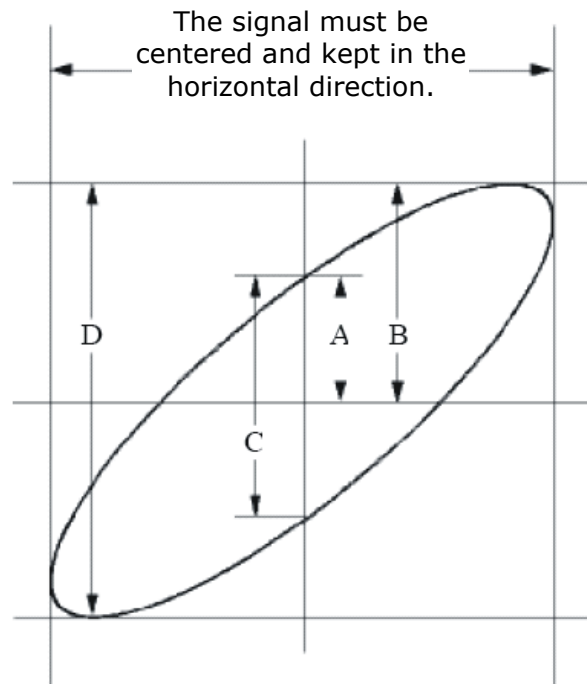

Figure 49. Lissajous Graph.
- 9 With the elliptical oscillogram method adopted, observe and calculate the phase difference (see Figure 49).